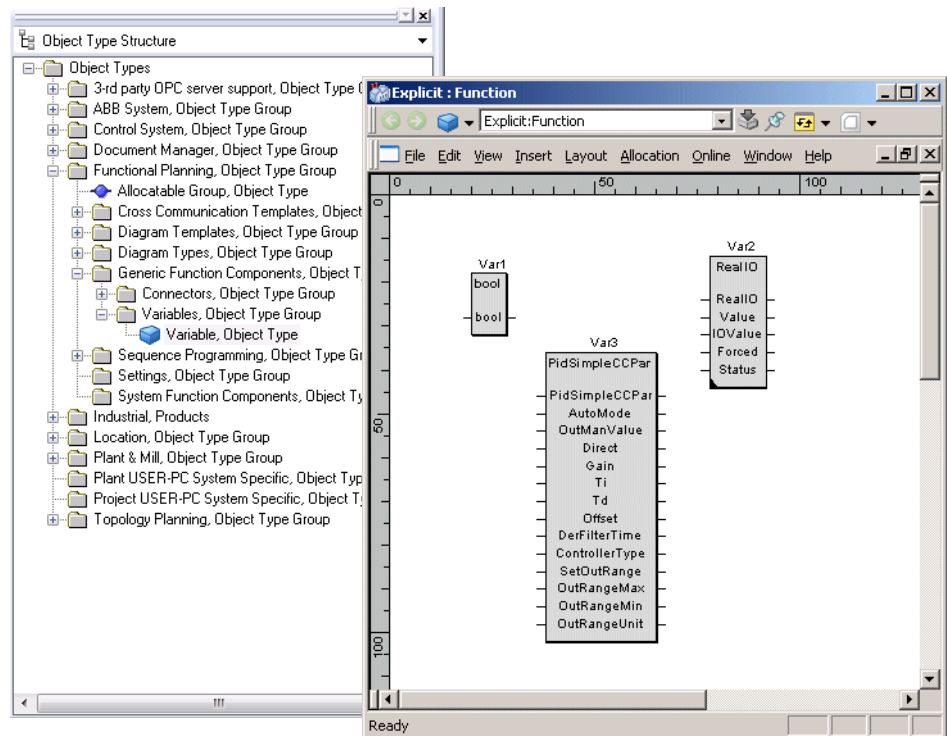

Figure 60. Explicitly Created Local Variables
2. Local variables, see Figure 60.